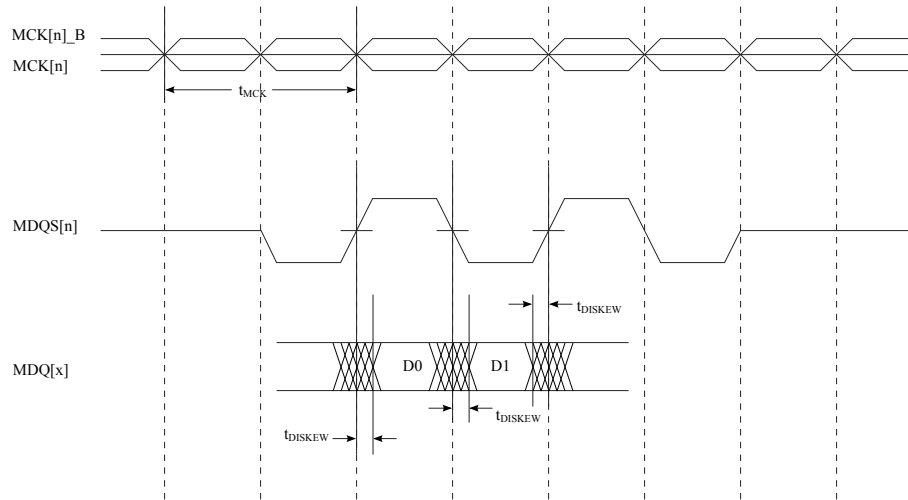
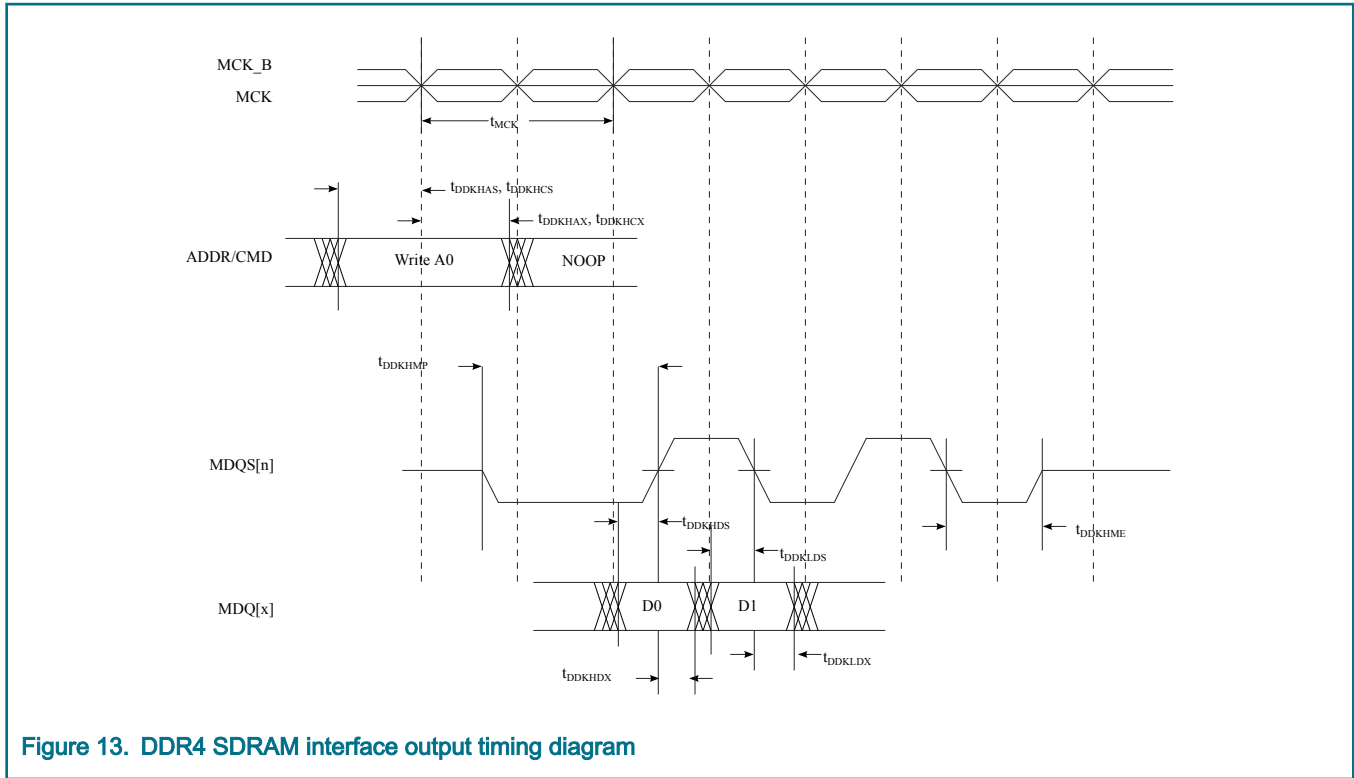

Figure 12. DDR4 SDRAM interface input timing diagram
Figure 13. DDR4 SDRAM interface output timing diagram
- See Figure 12.
2. See Figure 12.
4. The symbols used for timing specifications follow the pattern of $t_{(first\ two\ letters\ of\ functional\ block)(signal)(state)\ (reference)(state)}$ for inputs and $t_{(first\ two\ letters\ of\ functional\ block)(reference)(state)(signal)(state)}$ for outputs. Output hold time can be read as DDR timing (DD) from the rising or falling edge of the reference clock (KH or KL) until the output went invalid (AX or DX). For example, t_{DDKHAS} symbolizes DDR timing (DD) for the time t_{MCK} memory clock reference (K) goes from the high (H) state until outputs (A) are setup (S) or output valid time.
6. See Figure 13.